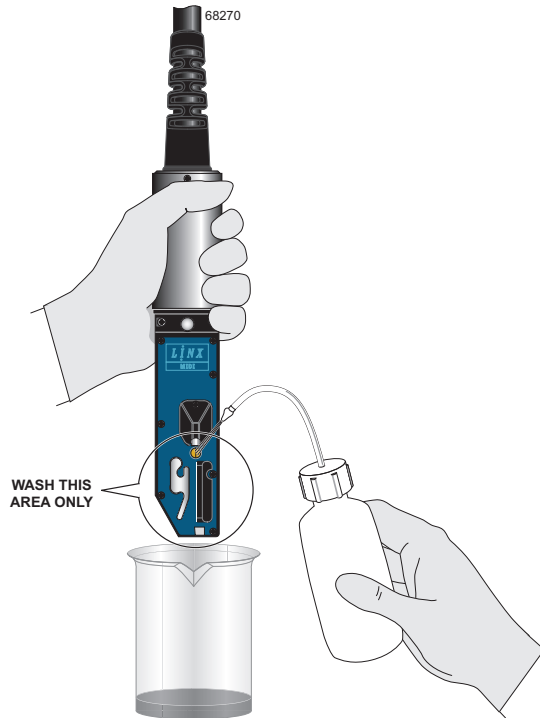

Figure 6-2. Wash the printhead with the solvent
3. Hold the printhead as shown in Figure 6-2, or attach it to a wash station if you have one. Make sure that the cleaning solvent is the same type that is used in the printer.
4. Put a container under the printhead and gently wash only the circled area with the solvent, as shown in Figure 6-2. Pause after every rinse to allow the ink to dissolve.